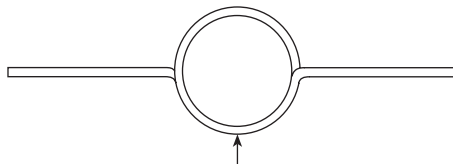

Fig. 11
2. Remove probe (if installed) and fit a pair of checking wires to the end of the probe tip, 90° relative to each other and a maximum 10 mm ($\frac{3}{8}$ ") from the tip end - see Figures 11 and 12.